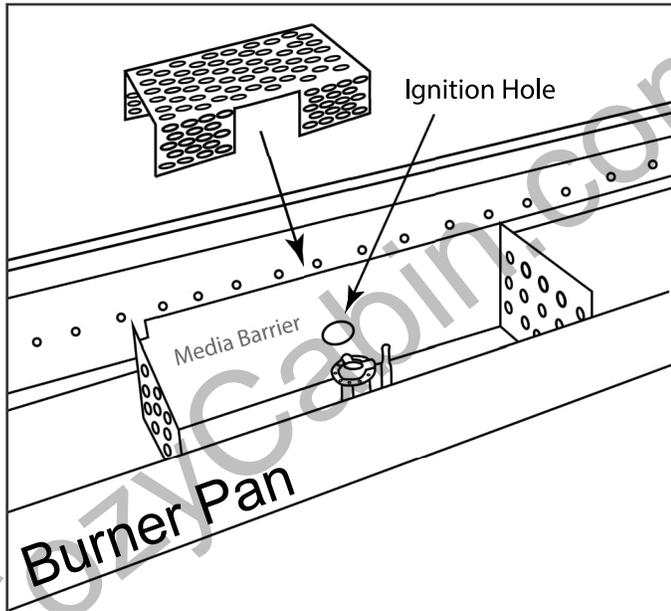

Fig. 31 Installing ignition screen.
Step 21: Install ignition screen (from parts box) overtop of the burner tube with the cutout area centered behind the pilot box ignition hole as shown in *Figure 31*. The ignition screen sits on top of the burner tube.
Test fire the fireplace before installing media to ensure flame is passing through ignition hole as shown in Figure 31, page 23. This is a good time to double check for any gas leaks or electrical connections before finalizing the installation by installing the glass media.